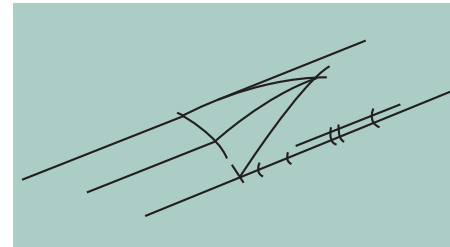

Figure 30 Weld joins
- E.** Typically, you would start welding from the edge of the room towards the centre. At this stage, pull the gun away from the groove and cut off the welding rod. Using a spatula knife, trim off the excess welding rod and cut a tapering "V", approximately 25mm long, into the existing weld (Figure 30). Commence welding as before, from the opposite end of the room. Run out the weld into the pre-cut "V" and cut off the excess welding rod.